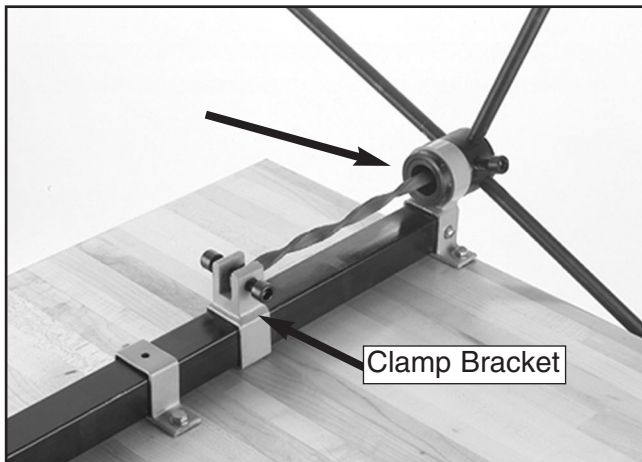

Figure 11. Workpiece inserted through the hub.
1. Insert the workpiece through the hub of the twist tool until the desired portion of the workpiece is shown, and tighten the cap screws down on the hub to hold the workpiece (Figure 11).